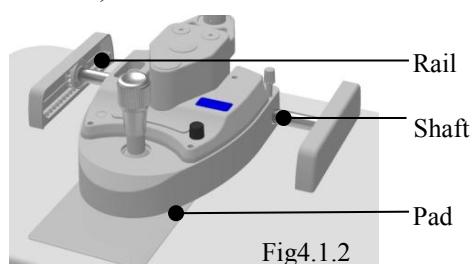

Fig4.1.2
- ② Cleaning the pad, rails, and shaft: If the pad, rails, and shaft are not clean, the horizontal and vertical movements will not be smooth. Wipe clean with a clean soft cloth (see Figure 4.1.2).